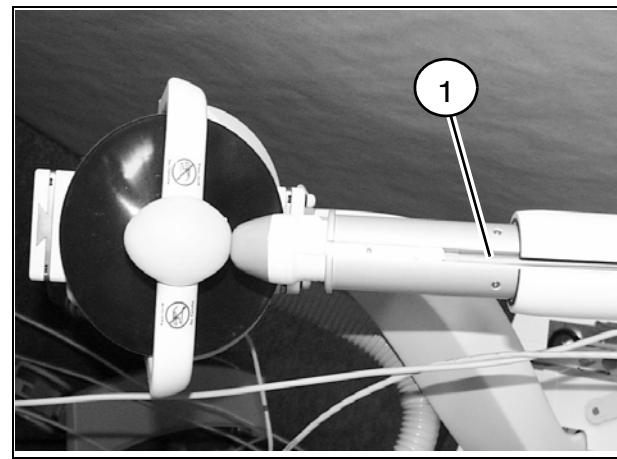

Fig. 15
- Check whether the ultrasound arm is as shown in Fig. 15; if not, position it accordingly. The long slot must be visible (1/Fig. 15).